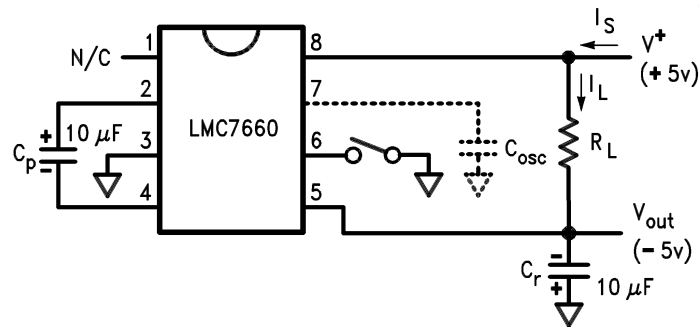

Figure 1. LMC7660 Test Circuit
- (1) Boldface numbers apply at temperature extremes. All other numbers apply at T_A = 25°C, V⁺ = 5V, C_{osc} = 0, and apply for the LMC7660 unless otherwise specified. Test circuit is shown in Figure 1.
- (2) Limits at room temperature are specified and 100% production tested. Limits in **boldface** are specified over the operating temperature range (but not 100% tested), and are not used to calculate outgoing quality levels.
- (3) The LMC7660 can operate without an external diode over the full temperature and voltage range. The LMC7660 can also be used with the external diode Dx, when replacing previous 7660 designs.
4. External electrolytic capacitors C_r and C_p should have their polarities connected as shown in Figure 1.